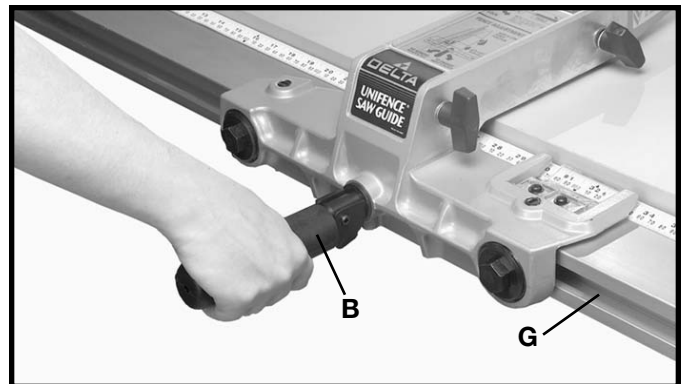

Fig. 68
3. After pushing in on handle (B), turn to the right indent position as shown in Fig. 68. This will prevent fence clamp from sliding out of the channel (G).